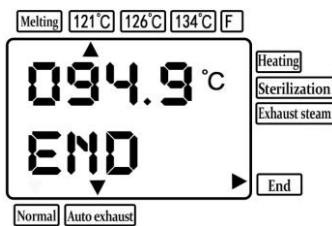

Fig. 20
(2) When the temperature in the sterilization chamber drops below 95°C, the display shows "END" (Fig.20). The status arrow points to the end, and the interlock is unlocked, indicating that the sterilization cycle finishes.